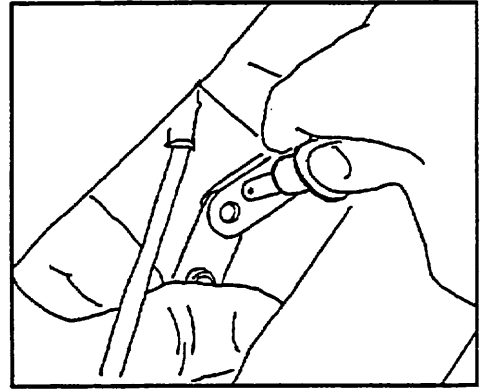

Figure 27
12) Pivot the crossbar center tang to one side to make access easier, and attach the VG activation cable to the crossbar center tang using the ball lock pin provided. (Figure 27)